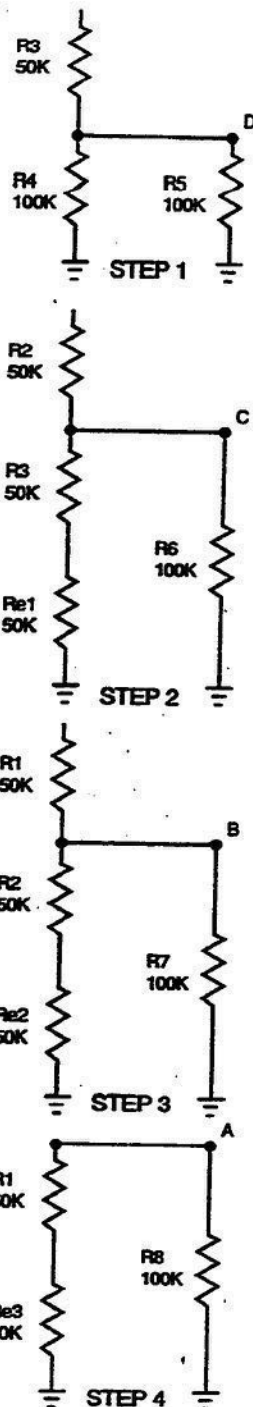

Figure 2-33. Voltage divider circuits (solving for resistance).
**Solving for resistance.** The combined effect of the individual load resistors and the voltage divider resistors in the circuit can be solved if you start at the inside of the circuit and work out. We use the equivalent circuits shown in figure 2-33 for our discussion. Refer to the corresponding figure identified by step numbers to review each of the following steps in computing the resistance.